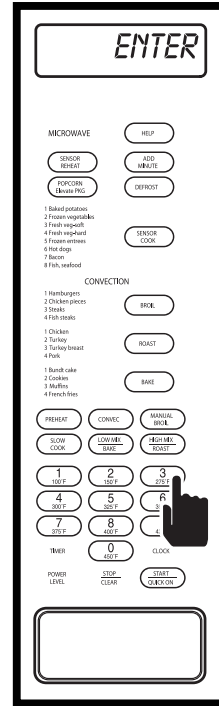

Figure 3-46.
2. Press the number 3 key, "ENTER - START-TIME" will flash on display (See Figure 3-46).